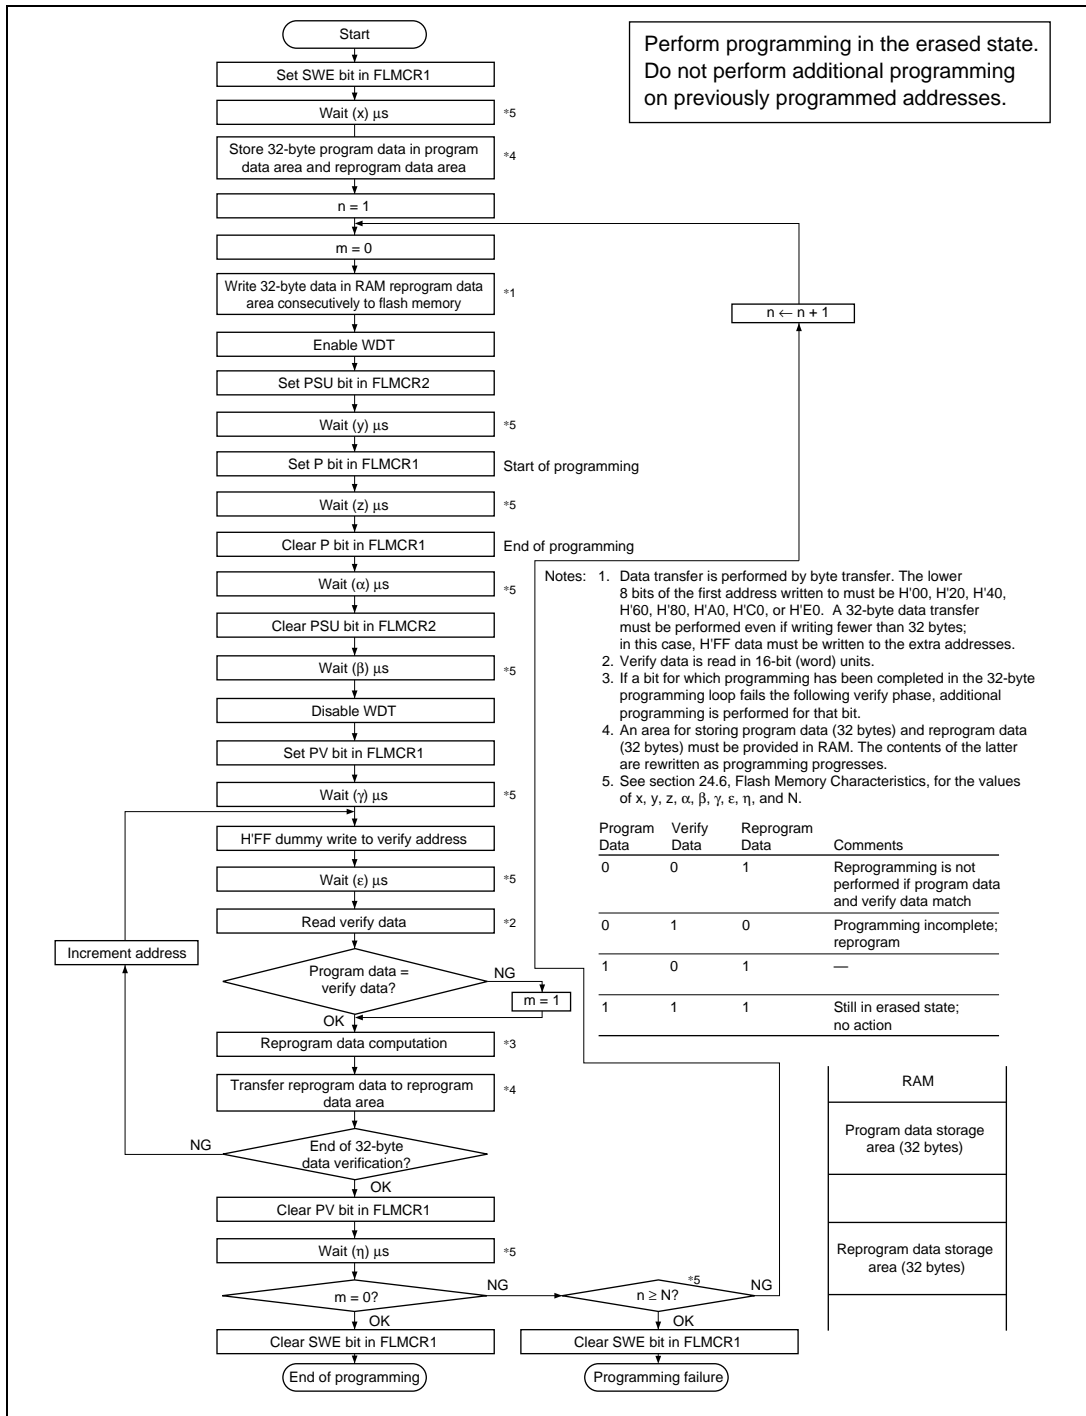

Figure 21.12 Program/Program-Verify Flowchart
Follow the procedure shown in the program/program-verify flowchart in figure 21.12 to write data or programs to flash memory. Performing program operations according to this flowchart will enable data or programs to be written to flash memory without subjecting the device to voltage stress or sacrificing program data reliability. Programming should be carried out 32 bytes at a time.
After the elapse of a given programming time, the programming mode is exited (the P bit in FLMCR1 is cleared, then the PSU bit in FLMCR2 is cleared at least (α) μ s later). The watchdog timer is cleared after the elapse of (β) μ s or more, and the operating mode is switched to program-verify mode by setting the PV bit in FLMCR1. Before reading in program-verify mode, a dummy write of H'FF data should be made to the addresses to be read. The dummy write should be executed after the elapse of (γ) μ s or more. When the flash memory is read in this state (verify data is read in 16-bit units), the data at the latched address is read. Wait at least (ϵ) μ s after the dummy write before performing this read operation. Next, the originally written data is compared with the verify data, and reprogram data is computed (see figure 21.12) and transferred to the reprogram data area. After 32 bytes of data have been verified, exit program-verify mode, wait for at least (η) μ s, then clear the SWE bit in FLMCR1. If reprogramming is necessary, set program mode again, and repeat the program/program-verify sequence as before. However, ensure that the program/program-verify sequence is not repeated more than (N) times on the same bits.